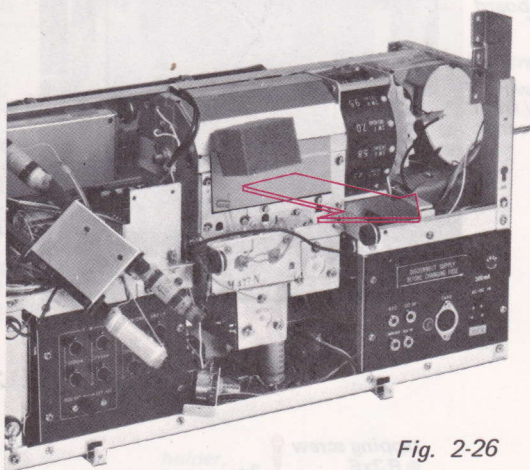

Fig. 2-26
5. Then sw front end block can be removed in the direction shown by the arrow in Fig. 2-26.